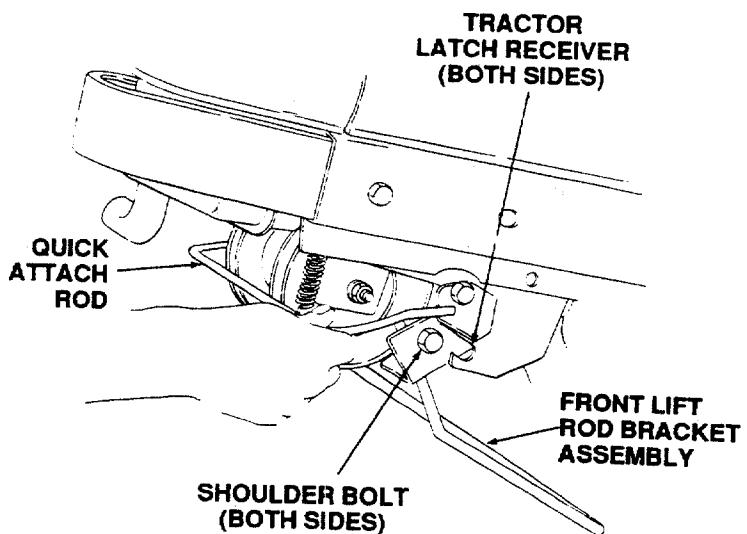

Figure 43
- Referring to Figure 43, push downward and hold the tractor quick-attach rod. Slide the left and right shoulder bolts of the front lift rod bracket assembly forward, and free of, the left and right tractor latch receivers. Release the tractor quick-attach rod.